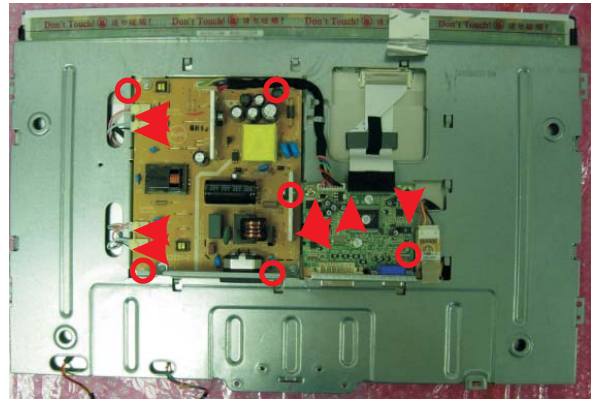

Fig.16
2. Remove the 6 screws and disconnect 8 cable to remove the scaler board , power board and USB board as Fig.16.